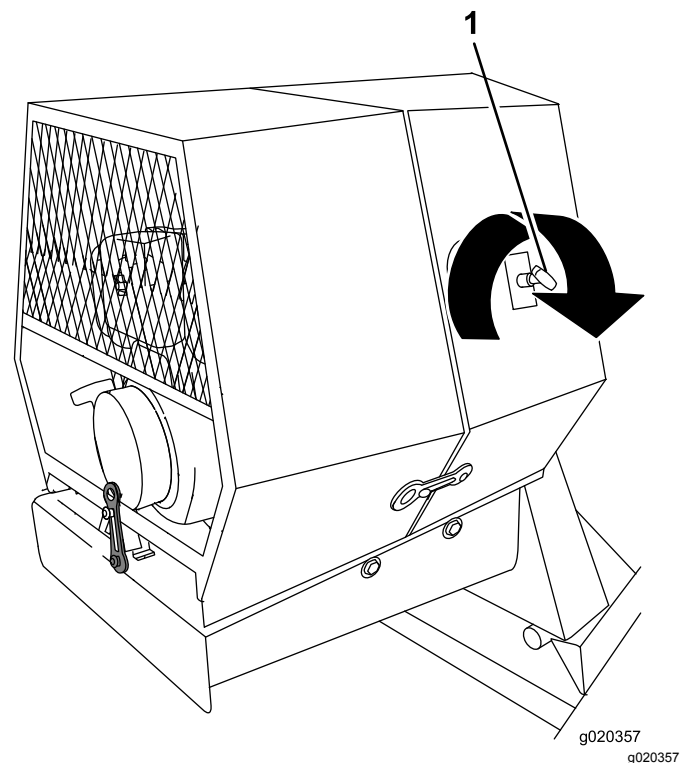

Figure 27
4. Rotate the engine-speed-control handle counterclockwise to unlock it, pull it all the way out, and lock it by rotating it clockwise (Figure 27).